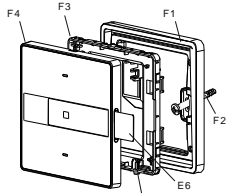
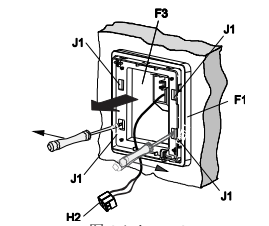

图 3 / Figure 3
图 9 / Figure 9
图例—图 3 至图 9
- 将螺丝刀插入孔 J1，并按图 9 所示撬开后壳。
- 按触摸开关的接收匹配按钮 (F5)，开始向设备分配物理地址 (参见图 3)。
Legend for figures 3 to 9
- Insert screwdriver to the holes (J1) and press as showed in Figure 9.
- Press the programming button (F5) on the device to initiate the assignment of the physical address to the device (see figure 3).